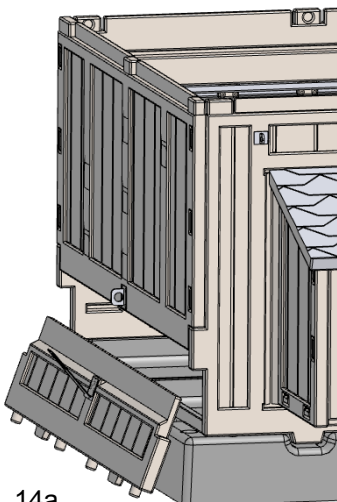
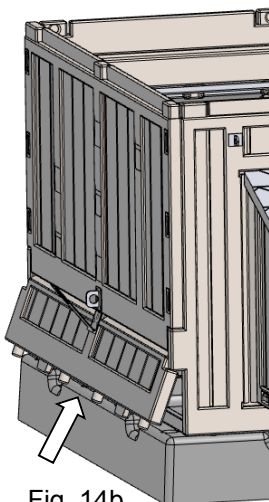
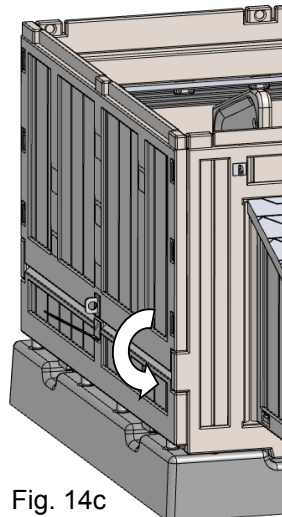

Fig. 14a
Fig. 14b
Fig. 14c
Step 14: Install the Removable Panel by sliding it up, from underneath the Back Wall (Fig. 14a), until the top of the Removable Panel is to the inside of the bottom of the Back Wall (Fig. 14b). Rotate the Removable Panel until it is vertical and the pegs on the bottom of the Removable Panel are aligned with the holes in the Coop Base (Fig. 14c). Slide the Removable Panel down, inserting the pegs into the holes, and close the hasp over the hasp eye. (Fig. 14d)